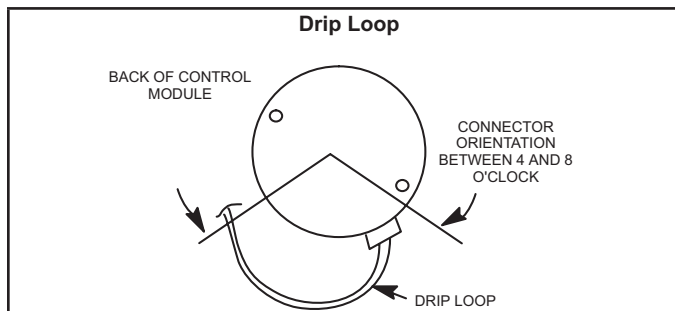

FIGURE 19
- 4 - The electrical connectors of the motor should be facing down to form a drip loop (FIGURE 19). This will direct moisture away from the motor and its electric connections on the motor.